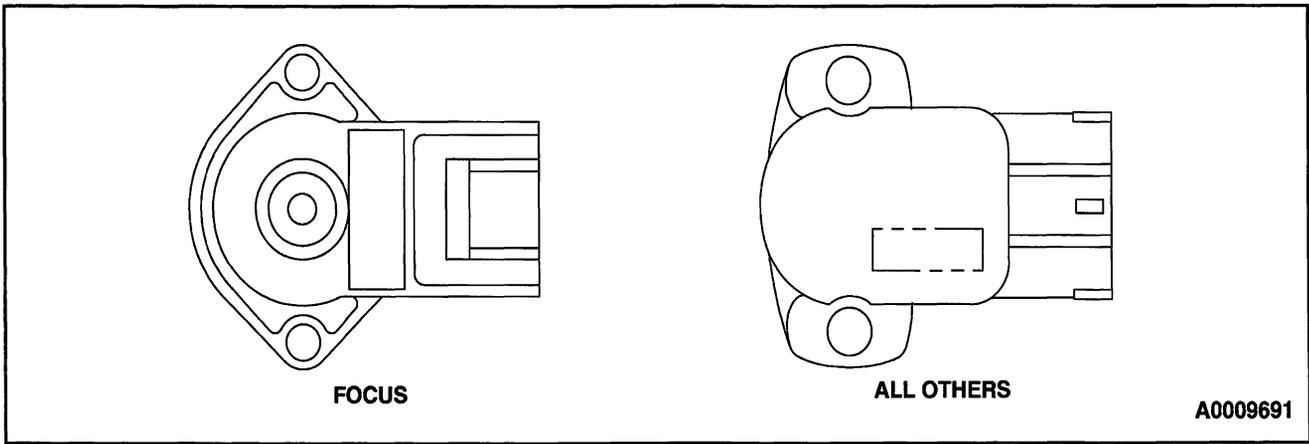

Figure 49: Typical Throttle Position (TP) Sensor
The throttle position (TP) sensor (Figure 49) is a rotary potentiometer sensor that provides a signal to the PCM that is linearly proportional to the throttle plate/shaft position. The sensor housing has a three-blade electrical connector that may be gold plated. The gold plating increases corrosion resistance on terminals and increases connector durability. The TP sensor is mounted on the throttle body. As the TP sensor is rotated by the throttle shaft, four operating conditions are determined by the PCM from the TP. Those conditions are closed throttle (includes idle or deceleration), part throttle (includes cruise or moderate acceleration), wide open throttle (includes maximum acceleration or de-choke on crank), and throttle angle rate.